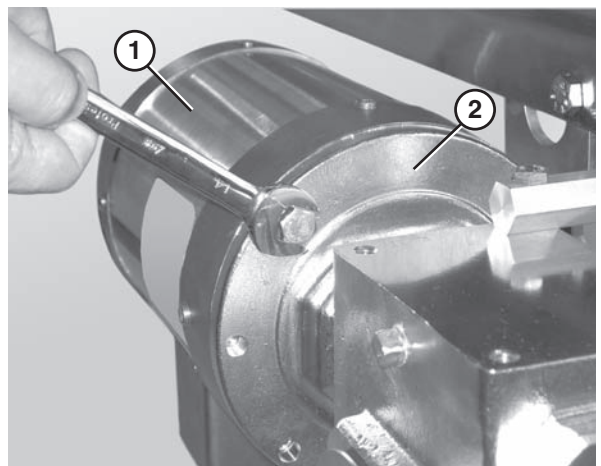

Figure 58
2. Remove the bolts that connect the motor to the drive assembly (**Figure 58**).
3. Remove the motor (**Figure 58, item 1**) from the drive assembly (**Figure 58, item 2**).